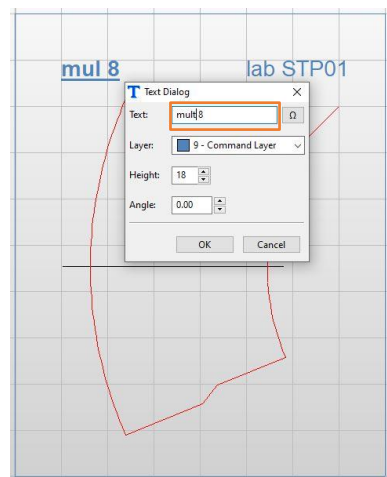

Figure 145
4. **Command Error:** Further we also intentionally want to produce an unknown NestKing Command error. Therefore double-click on our **"mul 8"**- Text object of STP01 and change the text to **"mult 8"** in the appearing Text Dialog (Figure 145).